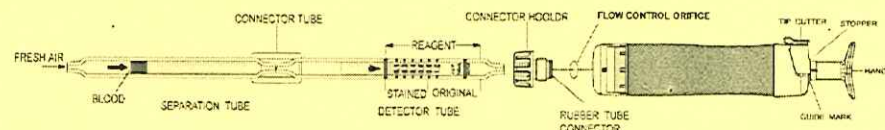

Fig.1
- MAKE SURE TO ATTACH THE FLOW CONTROL ORIFICE TO THE ASPIRATING PUMP PRIOR TO MEASUREMENT AS SHOWN IN Fig.1.
- ① Break both ends of a detector tube and a separation tube.
- ② Connect the detector tube and separation tube with the connector tube as shown in Fig.1.
- ③ Insert the detector tube into the aspirating pump securely. (An arrow mark of each tube should point to the aspirating pump.)
- ④ Take 0.3mL of blood into a syringe and insert it into the separation tube.
- ⑤ Align the guide marks on the handle and the stopper of the aspirating pump.
- ⑥ Pull the pump handle at a full stroke until it locks and wait for 3 minutes to aspirate fresh air.
- ⑦ Remove the detector tube from the rubber tube connector and read the scale at a maximum point of a stained layer.